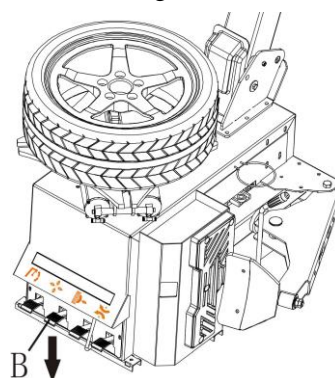

Fig. 15
- Press the pedal B(Fig. 15) to adjust the wedges to the reasonable place. Place the wheel and locked it .